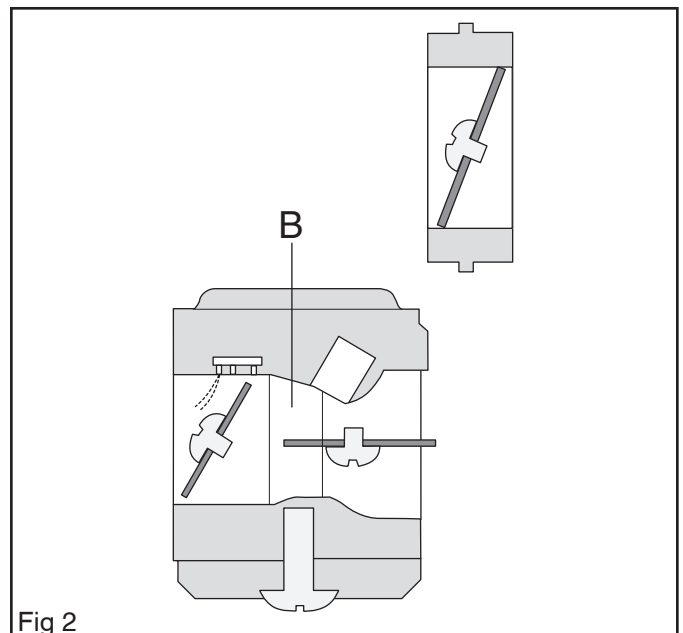

Fig 2
The mixing venturi (B) houses the choke, throttle valve and diffuser jets. Here air is mixed with the fuel to give a fuel/air mixture that can be ignited by the ignition spark. See Figure 2.